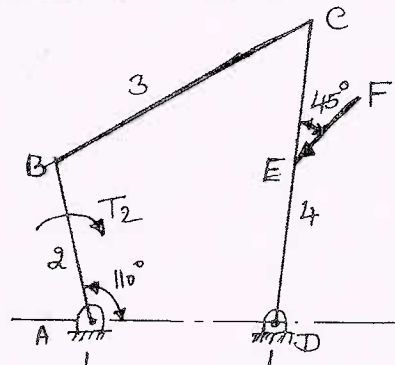

Fig.Q.2(b)
- b. A four bar mechanism under the action of external force is shown in Fig.Q.2(b). Determine the torque  $T_2$  and various forces on links for the equilibrium of the system.  $F = 2000\text{N}$  at  $45^\circ$  on CD,  $AB = 200\text{mm}$ ,  $AD = 215\text{mm}$ ,  $BC = 370\text{mm}$ ,  $DC = 350\text{mm}$ ,  $CE = 100\text{mm}$ . (14 Marks)